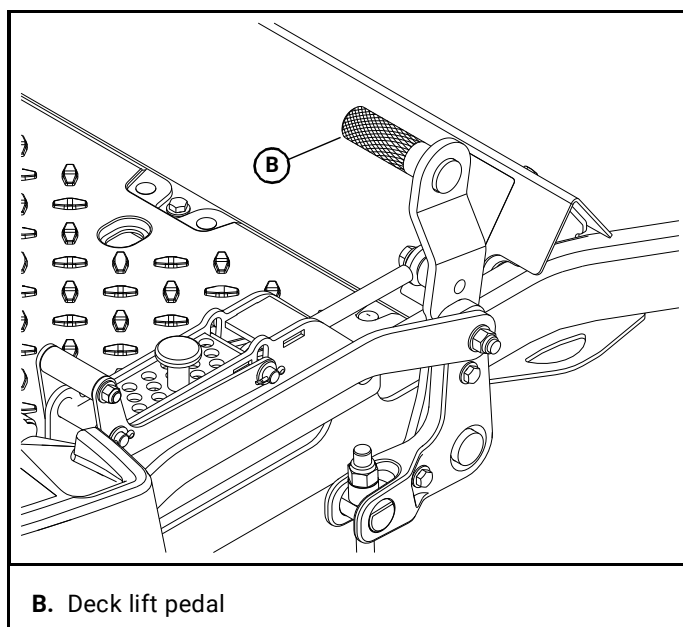

Figure 3-6
- B. **Deck lift pedal (Figure 3-6)** – the deck lift pedal is used to raise or lower the deck. Push on the pedal to raise the deck and then place the adjusting pin into the desired cutting height hole. Release the pedal. Push the deck lift pedal to raise the deck when going over obstructions.